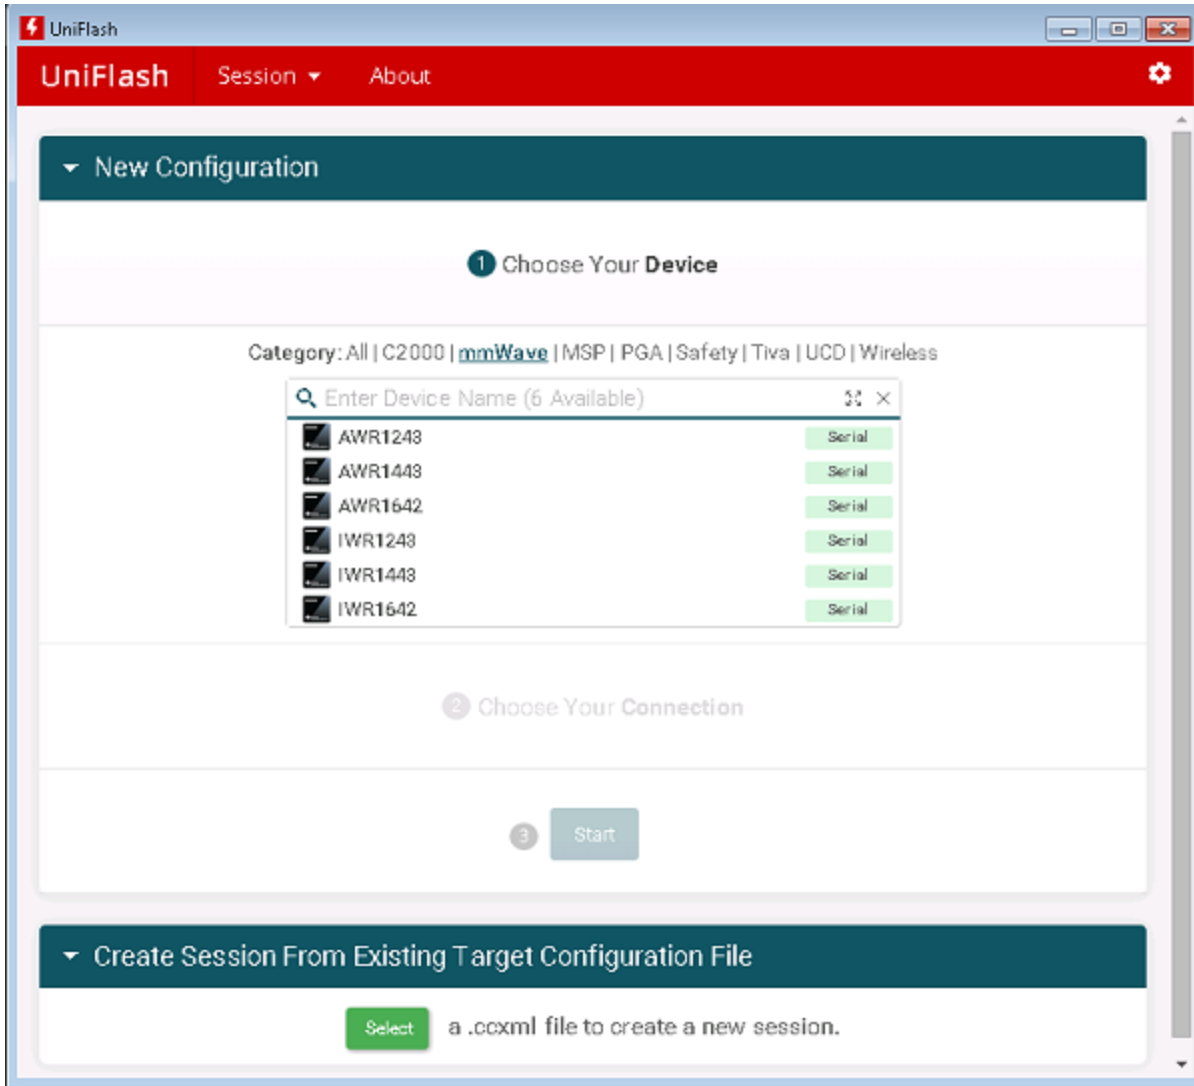

Figure 2: mmWave Device Filtered in UniFlash Device List
- Figure 2: mmWave Device Filtered in UniFlash Device List
Clicking "mmWave" on the line labelled Category above the device listing will filter the list to only display the family of supported mmWave devices (see Figure 2). Alternatively, typing the name of the device in the search bar above the device list also filters the list in real-time.